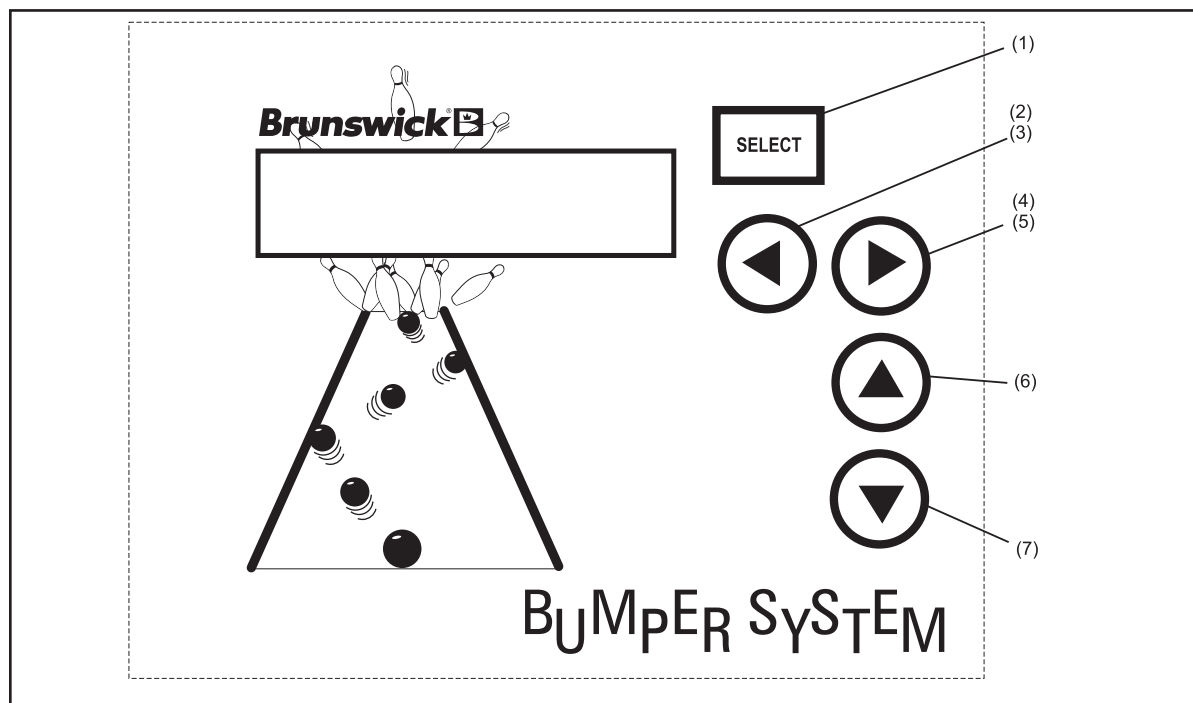

Figure 13. System Controller Keypad
1. Place toggle switch on rear of unit up (ON) position. Refer to *Figure 13* for switch/button locations.